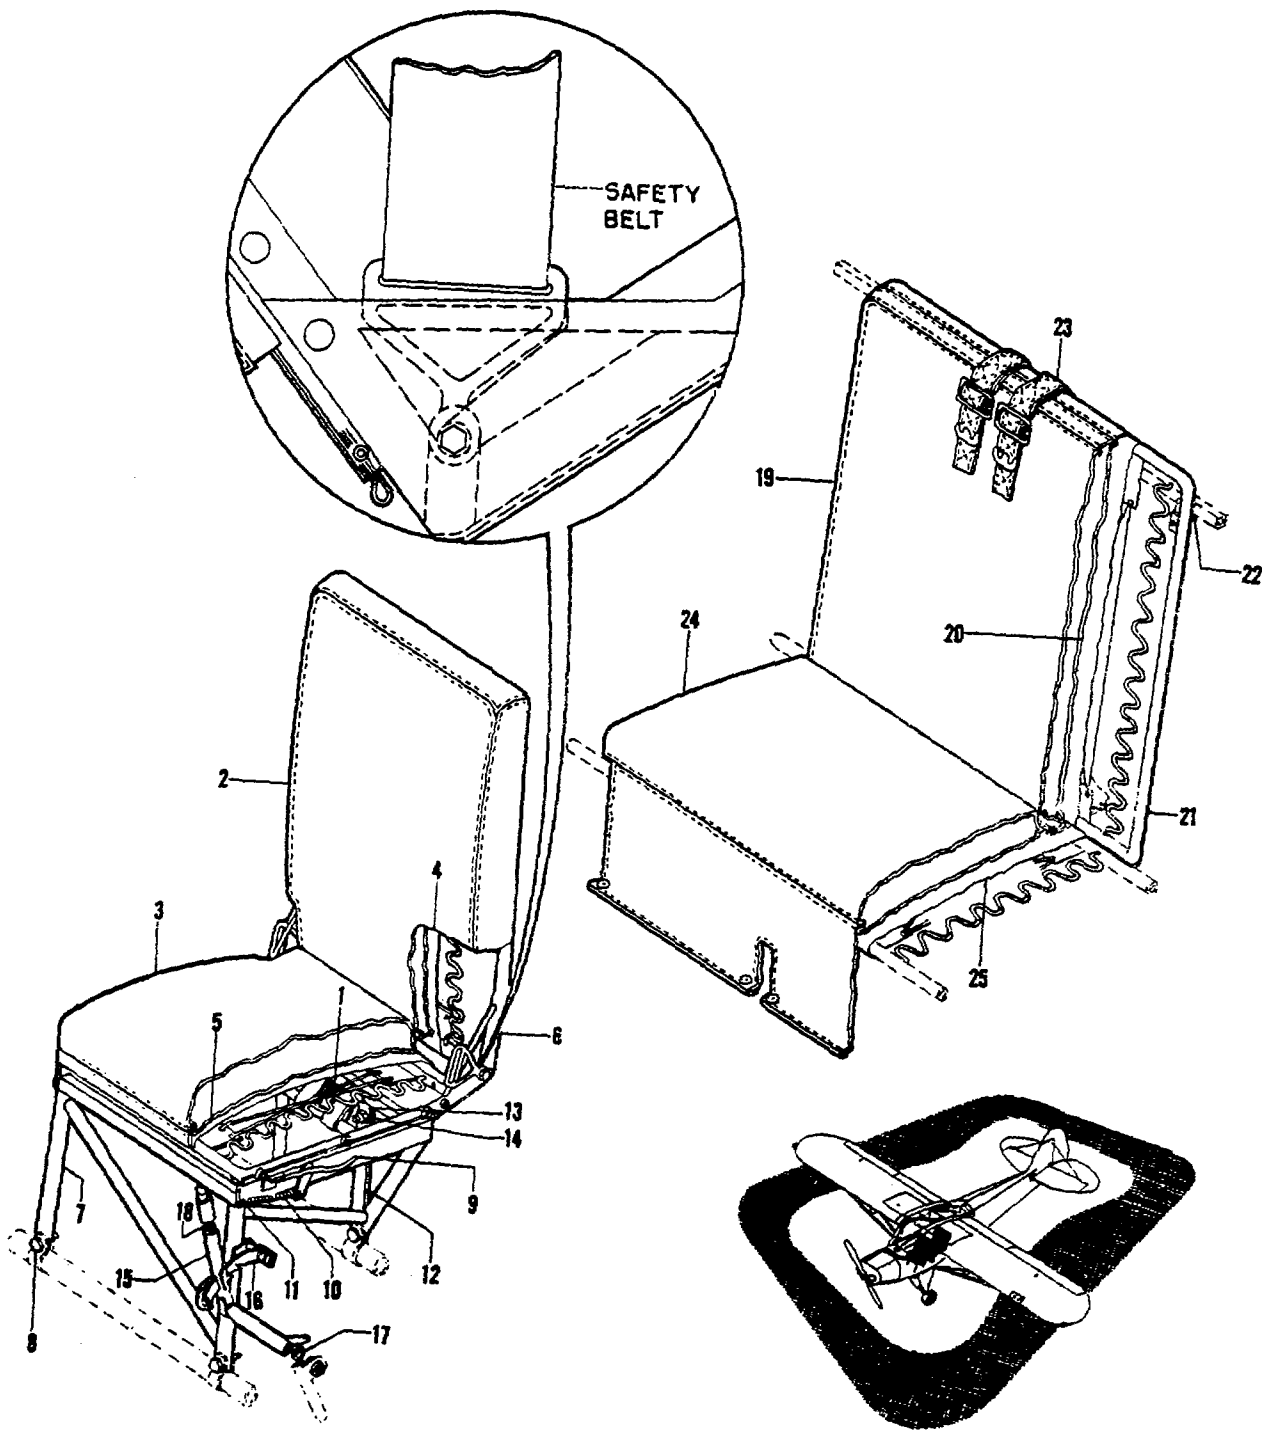

Figure 2-20. Seats Installation
**2-63. REMOVAL OF SEAT ASSEMBLIES. (See figure 2-20.)**
a. The front seat frame assembly (8, figure 2-20) may be removed as a unit by disassembling bolt and nut (8). Remove cowl clip (22) and pull out seat stop
b. Remove the front seat bottom cushion (3) by un-snapping the snap fasteners. Remove the front seat back cushion (2) by un-snapping the fasteners and pulling it off the frame.
d. Remove the rear seat bottom cushion assembly (24) by removing its snap fasteners. The back cushion assembly may be removed by sliding it off the frame. The rear seat may be disassembled further if necessary for repair or replacement of parts.
**2-64. CLEANING OF SEAT ASSEMBLIES. (See figure 2-20.)**
**2-65. INSPECTION AND REPAIR OF SEAT ASSEMBLIES. (See figure 2-20.)**
a. Inspect each shoulder harness strap assembly (23, figure 2-20) and safety belt (26) for damage or wear. These assemblies must be replaced if damaged or worn.
**2-66. INSTALLATION OF SEAT ASSEMBLIES. Both front and rear seat assemblies may be reinstalled in the reverse order of their removal. (See figure 2-20.)**
Legend for Figure 2-20.